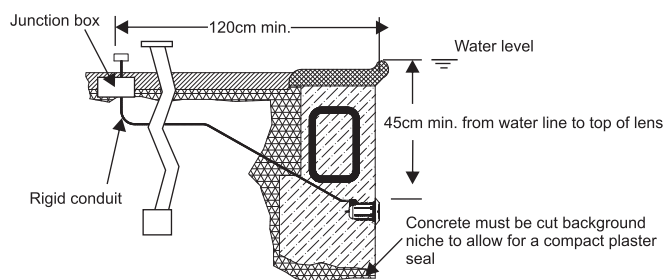

Figure 3
3. Make sure the voltage is 12V and the terminal box is at least 120cm from the poolside (Figure 3).
4. Upon installation, top of the light must be at least 45cm from water surface (Figure 3).